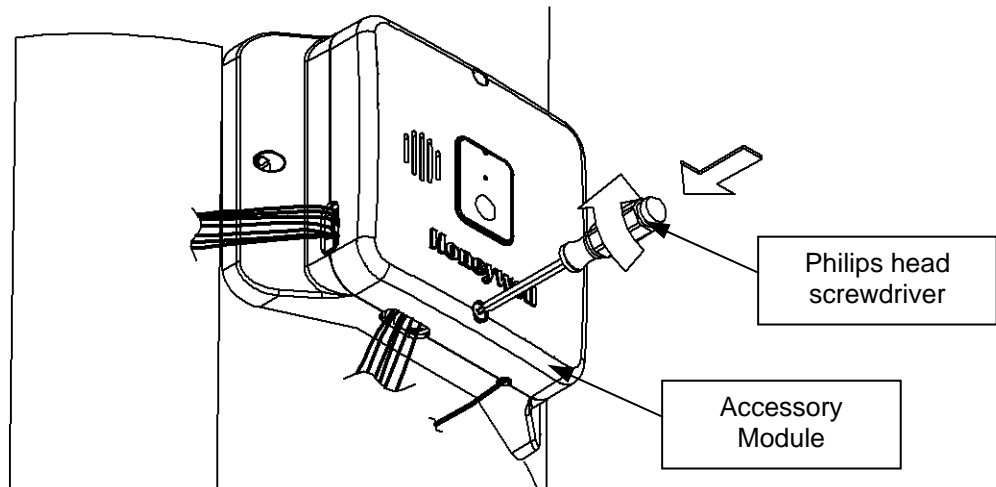

Figure 104
Step 3: Tighten both Accessory Module cover screws, as shown in Figure 104.